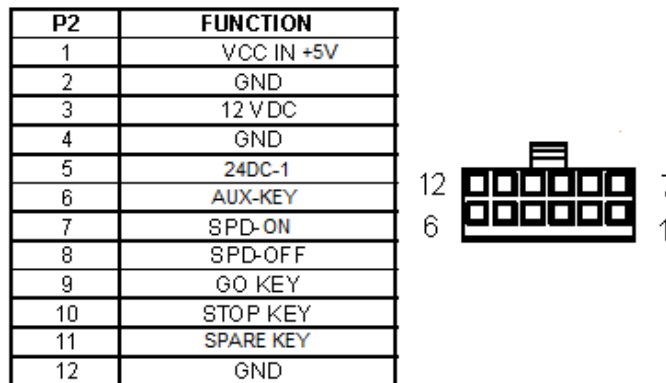

Figure 5.3d – Overlay Power Connector Pin Assignments
3. LED's above the overlay power connector are used to monitor the pressing of the following 5 overlay buttons: AUX (D32), STOP key (D28), GO key (D29), ON key (D31), OFF key (D30). There is also one spare LED not used. See figure 5.3d for pin assignments. Please note, early computer modules may call the AUX the START key.